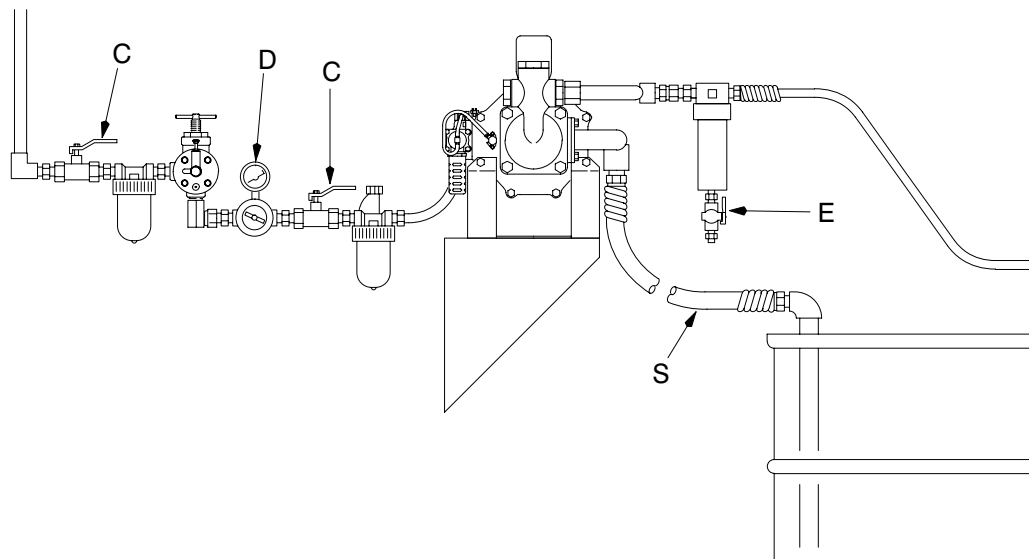

Fig. 5
1. Place the suction hose (S) in the fluid to be pumped. See Fig. 5.
2. Close the fluid drain valve (E).
3. With the air regulator (D) closed, open both bleed-type master air valves (C).
5. Slowly open the air regulator (D). Adjust it until the pump runs smoothly.